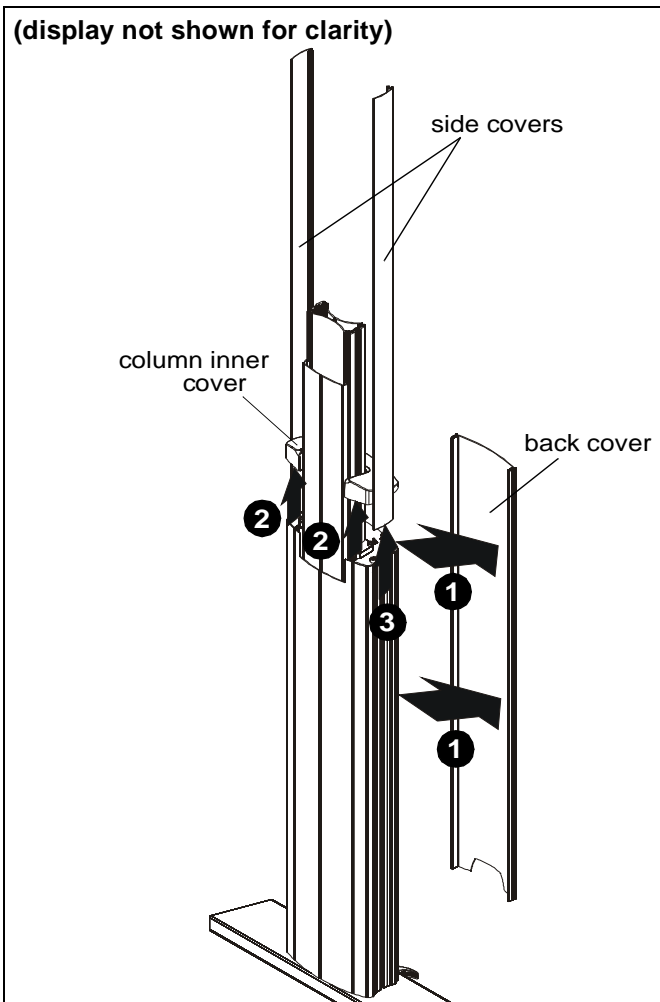

Figure 1
1. Remove back cover from cart/stand. (See Figure 1)
2. Remove column inner cover from cart/stand. (See Figure 1)
3. Remove side covers from cart/stand by sliding them up the channel. (See Figure 1)